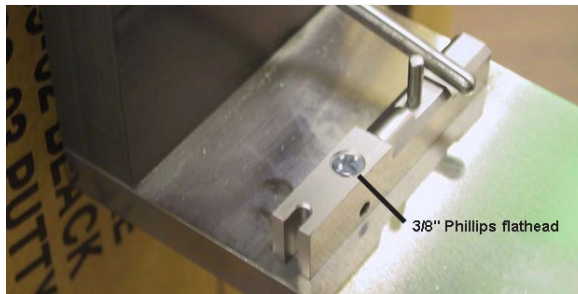

Figure 34: Crack Seal Option Installation (note probe location and cut-out area for beam placement)
8. Ensure that the thin beam assembly and the thick beam can fit in the cut-out area on the (lower) Crack Seal beam support. Refer to Figure 34. If they cannot be seated properly, loosen the screws securing the beam support to the Load Frame and take advantage of any "play" to readjust the position of the supports until the beam(s) can be correctly positioned.